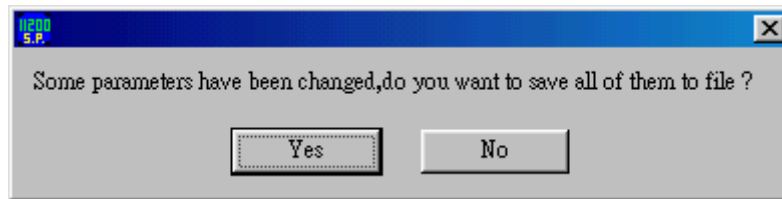
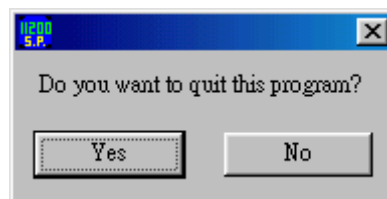

Figure 4-6 Message for Parameter Changes
Figure 4-7 Confirmation for Exiting the Program
- Exit: It quits the program. If the parameters are changed, a message will prompt to ask users if the file will be saved and then confirm for exit as Figure 4-6, Figure 4-7 shows.